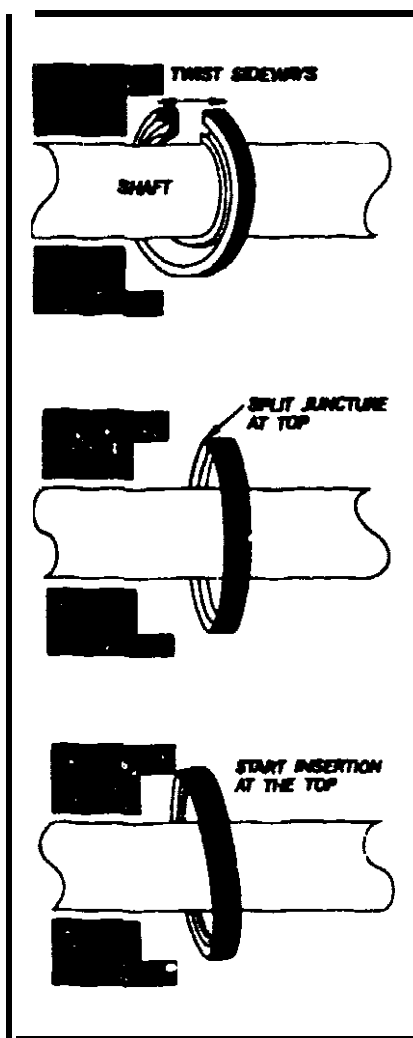

Figure 5.5-3
2. Separate **the** cut ends of the new seal sideways so the **seal** forms a helix, as shown in **Figure 5.5-3. Do not try w form the seal** into a "V" shape. Separate **the** ends far enough that the seal can slip **over** the shaft. **Make sure** the seal lip void faces into **the seal** housing.